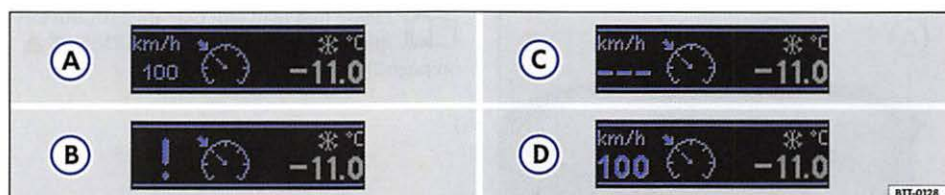

Fig. 139 In the instrument cluster display: Cruise control status displays.
System malfunction ⇒ fig. 139 (B).	Switch off cruise control. Take the vehicle to an authorized Volkswagen dealer or authorized Volkswagen Service Facility.
Status fig. 139